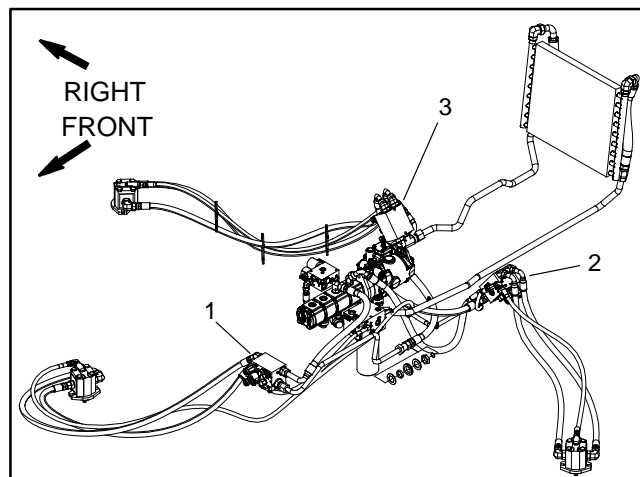

Figure 41
1. Make sure hydraulic oil is at normal operating temperature by operating the machine under load for approximately ten (10) minutes. Make sure the hydraulic tank is full.
3. Locate deck manifold to be tested (Fig. 41). Disconnect hydraulic hose at deck manifold port (M1).